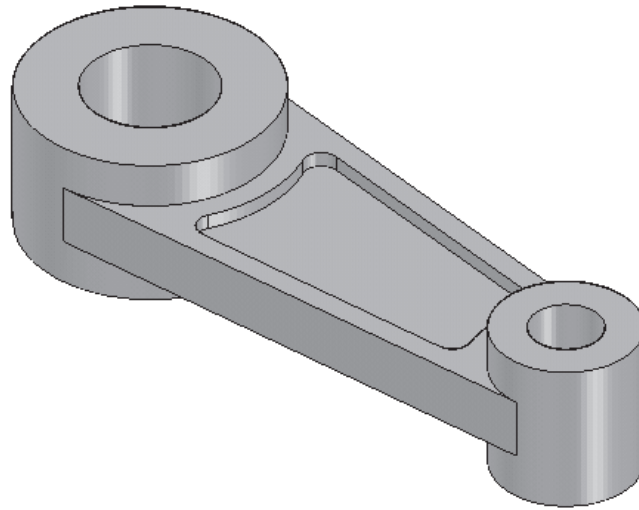

Figure 5-73 Final model for Tutorial 3
- Create a protrusion feature using the same sketch to complete the model, refer to Figure 5-73.
5. Right-click on **Sketch 1** in the **EdgeBar** and choose **Hide** from the shortcut menu. The display of the sketch is turned off. The final model for Tutorial 3 is shown in Figure 5-73.